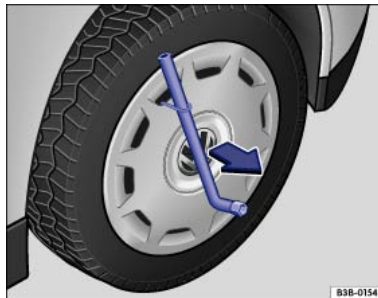

Fig. 242 Removing the wheel covers.
- Push the box spanner through the wire hook ⇒ Fig. 242 and remove the wheel cover in the direction of the arrow.